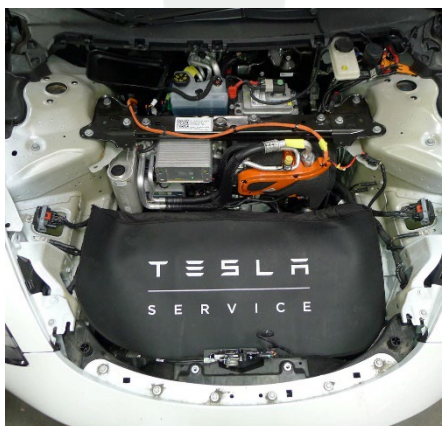

Figure 45
37. Remove the fender protector from the fan shroud and reinforcement beam (Figure 45).